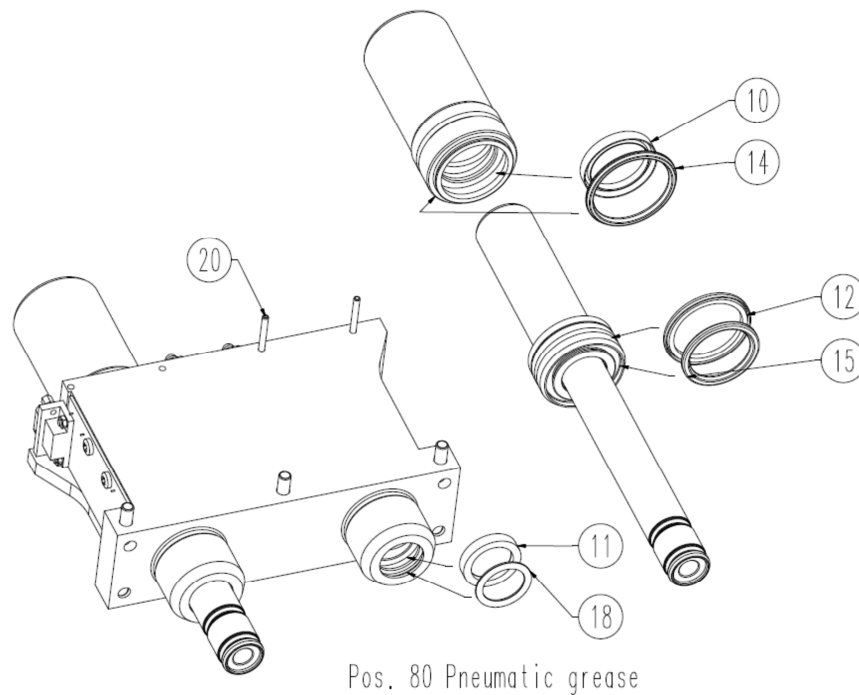

Figure 6-2
5. Remove the 4 set screws (68) on the back of the pressure plate.
6. Remove pressure plate assembly from the actuator shafts, also remove the 2 O-rings (70) from the actuator shafts; place these parts in an area where they are protected from contamination and damage.
7. Remove the screws (99).
9. Remove the 4 dowel pins (20) (2 per actuator shaft) and pull the bushing out of the actuator body «Figure 6-2».